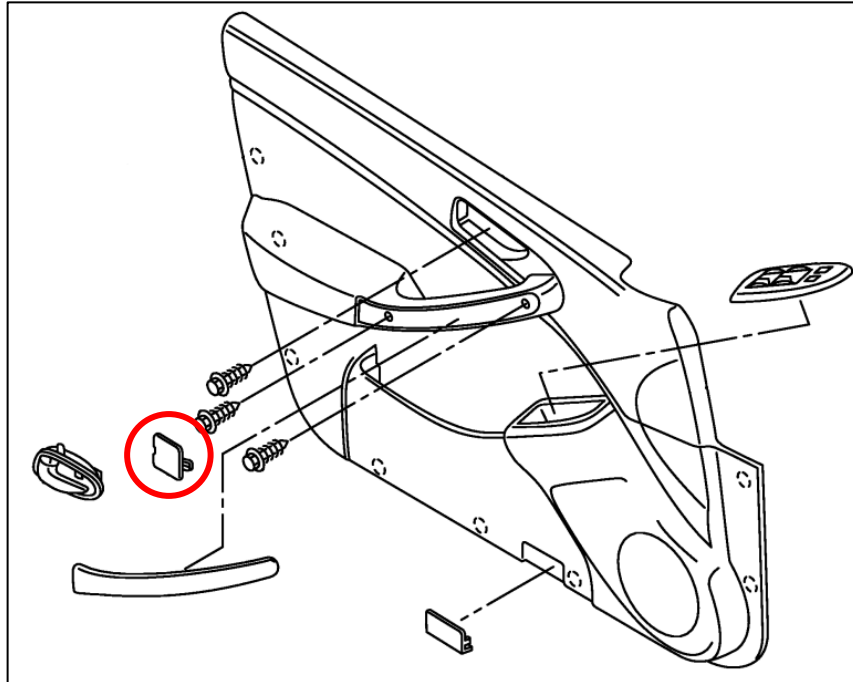

Figure 18
3. Pull the Door Release Handle and remove the small Trim Piece behind it with a Trim Removal Tool. *Figure 18.*